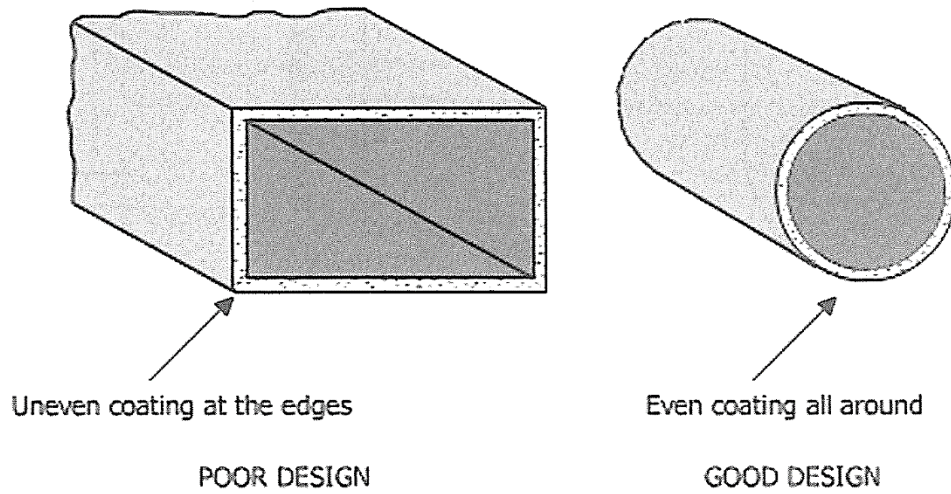

Figure 8.38a Design for uniform coating protection
- Figures 8.38a and b illustrate the point. For uniform coating application grind all sharp edges and apply an extra coat of paint. Keep sharp edges to a minimum.